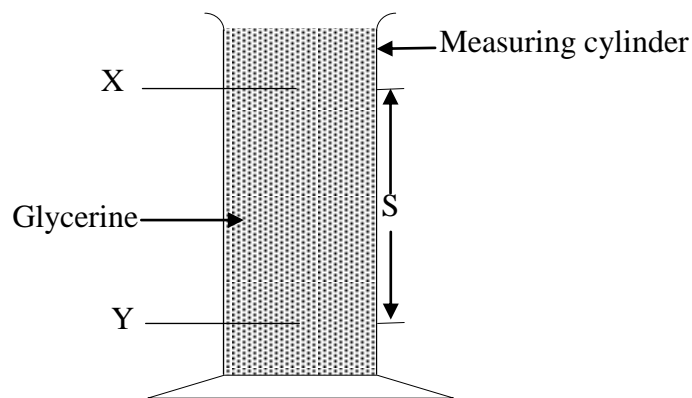

Figure 23
- (b) Arrange the apparatuses as shown in Figure 23 and then fill the measuring cylinder with glycerine.
- (d) Starting with the smallest ball bearing, use the forceps to release the ball at the meniscus of glycerine in the measuring cylinder and record the time the ball takes to fall over a distance S between X and Y as shown in Figure 23. Point X should be chosen so that the distance from the meniscus of glycerine to X is at least 4cm. Meanwhile, point Y should be at least 20 cm away from X . Measure and record the distance, S with a metre rule. You may use the bar magnet to pull the balls out of the glycerine in the measuring cylinder.